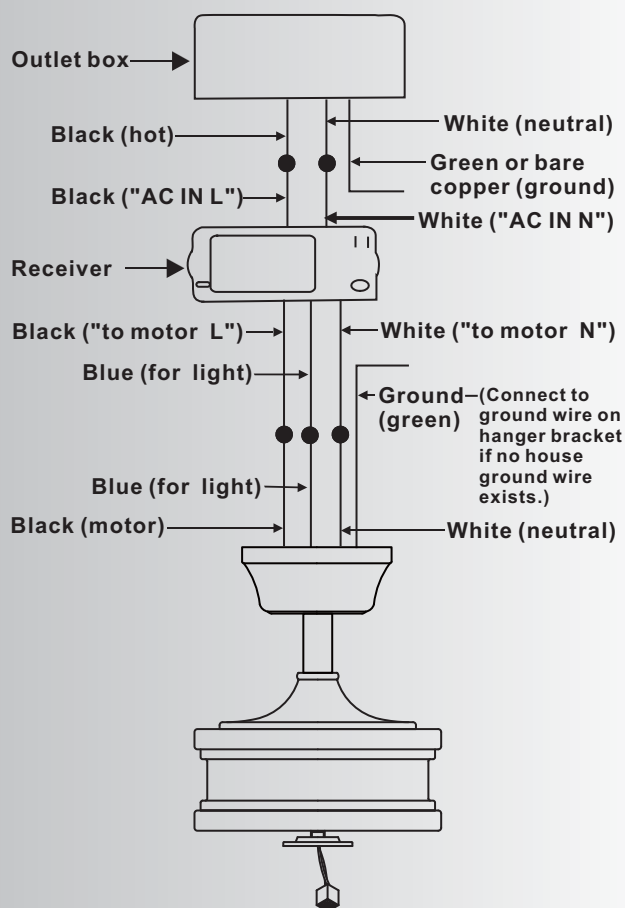

Fig. 14
Step 2. (Fig. 14) Motor to Receiver Electrical Connections: Connect the black wire from the fan to black wire marked "TO MOTOR L". Connect the white wire from the fan to the white wire marked "TO MOTOR N" from the receiver. Connect the blue wire from the fan to the blue wire marked "For Light" from the receiver. Secure the wire connections with the plastic wire nuts provided.
Step 3. (Fig. 14) Receiver to House Supply Wires Electrical Connections: Connect the black (hot) wire from the ceiling to the black wire marked "AC in L" from the receiver. Connect the white (neutral) wire from the ceiling to the white wire marked "AC in N" from the Receiver. Secure the wire connections with the plastic wire nuts provided.
Step 4. (Fig. 14) If your outlet box has a ground wire (green or bare copper) connect it to the fan ground wires; otherwise connect the hanging bracket ground wire to the mounting bracket. Secure the wire connection with a plastic nut provided. After connecting the wires, spread them apart so that the green and white wires are on one side of the outlet box and black and blue wires are on the other side. Carefully tuck the wire connections up into the outlet box.